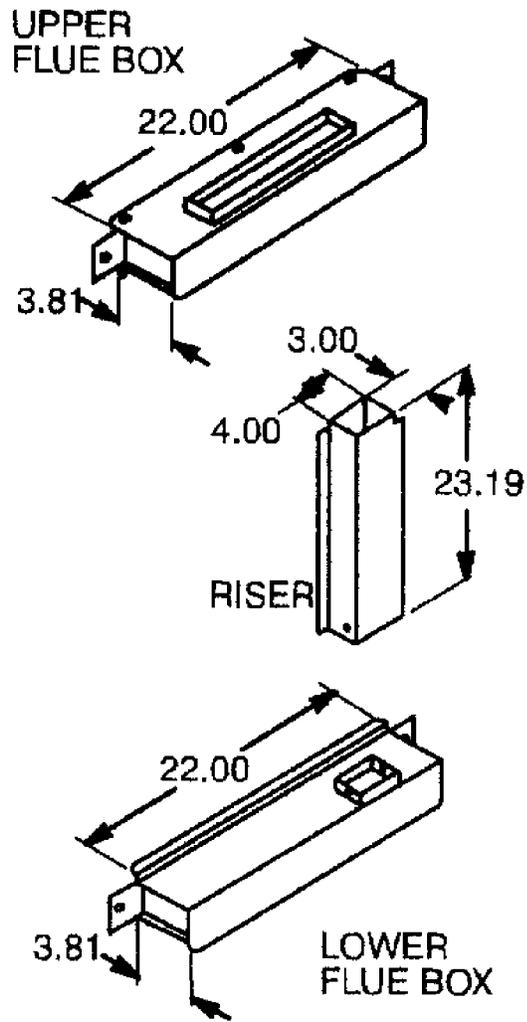

Figure 8-8. Exhaust Vent Assembly
2. Install the lower section flue box (Figure 8-8). Align the flue box with the existing holes in the oven. Use the self drilling screws provided.